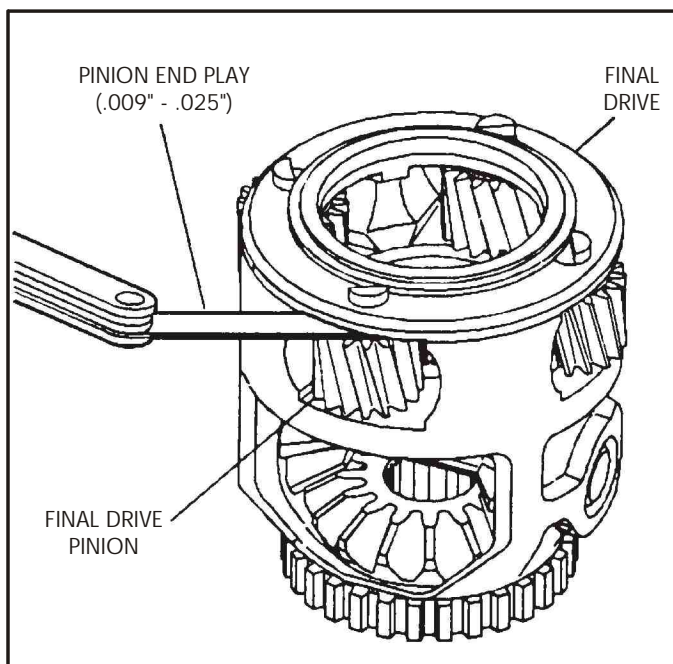

Figure 83
2. Use a feeler gage to measure the differential pinion end play, as shown in Figure 83.